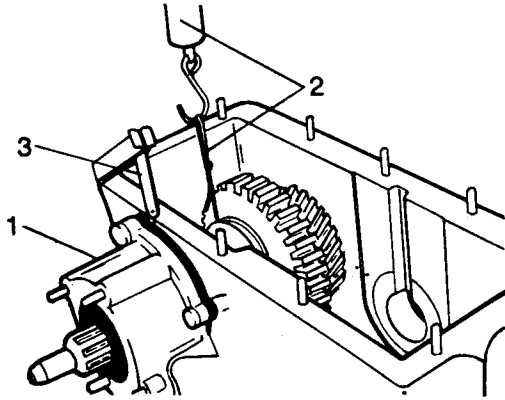

Fig H2.29
- (1) Refer to Fig H2.29. Fit the speedometer drive housing (1) without any shims and tighten the nuts with the fingers.
- (2) Measure the rolling resistance by means of a string tied around the groove of the selector gear for high and low speeds, and a spring balance. The string must not slip which would give a false reading (2).
- (3) The correct preload of the bearings is when a reading of 0,90 to 1,80 kg is achieved on the spring balance. The preload is increased by tightening the speedometer drive housing nuts uniformly.
- (4) When the preload is correct, measure the distance with feeler gauges between the speedometer drive housing and the transfer box surfaces (3). The distance is the same as the thickness of the shims to be fitted between the speedometer drive housing and transfer box.
(5) Remove the spring balance, string and speedometer drive housing.